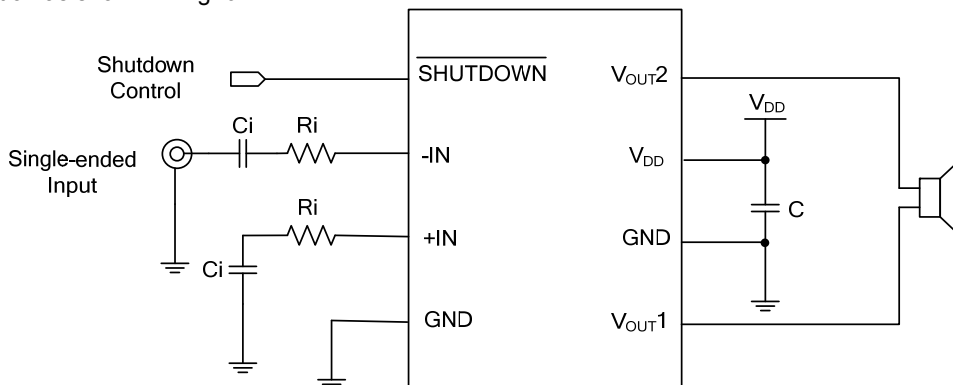

Fig. 6 Single-ended Input Configuration
Of course, the input capacitors can also be used to remove the low audio frequencies. When using the **M4670** single-ended source, power supply noise on the ground is a +IN input pin capacitance-coupled input signals are on the ground (Fig. 6~8). Setting the high-pass filter point above the power supply noise over the frequency of 217Hz in the GMS mobile phone.
The **M4670** can be used for single-ended input capacitance of the source, but will need to enter the terminal to prevent any DC. For the gain equations, Equation (2), frequency response, Equation (3), the typical application configuration as shown in Fig. 6.